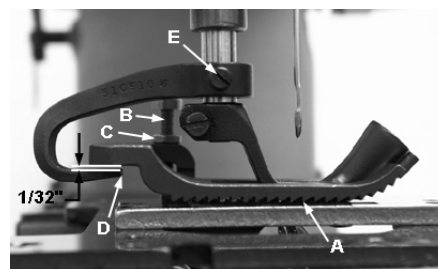

Fig 10A
Set the up upper feed dog so at it lowest position the teeth will just contact the lower feed dog teeth (A, Fig 10A). To make this adjustment, loosen nut (C) and turn screw (B) up or down as required. Lock nut (C) after adjustment has been made.
With the upper feed dog at its lowest position, set the lift lever so the there is approximately $1/32$ " clearance between the top of the lift lever and the bottom of the feed dog heel. (D, Fig 10A) To make this adjustment loosen screw (E) and move the lift lever up or down as required.